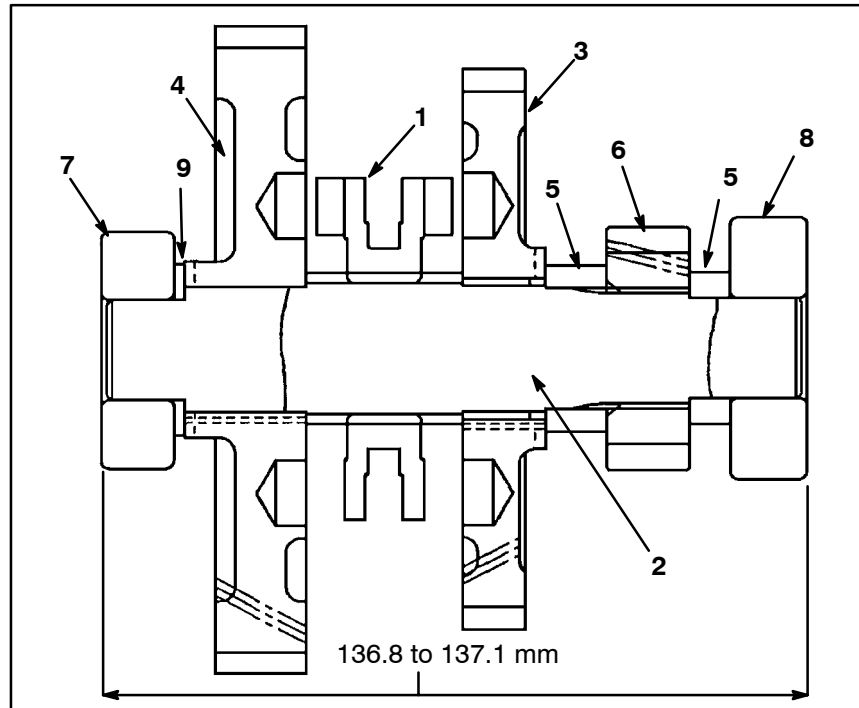

Figure 55
C. Make sure distance from one ball bearing outer edge to the other ball bearing outer edge is 136.8 to 137.1 mm (Fig. 55).